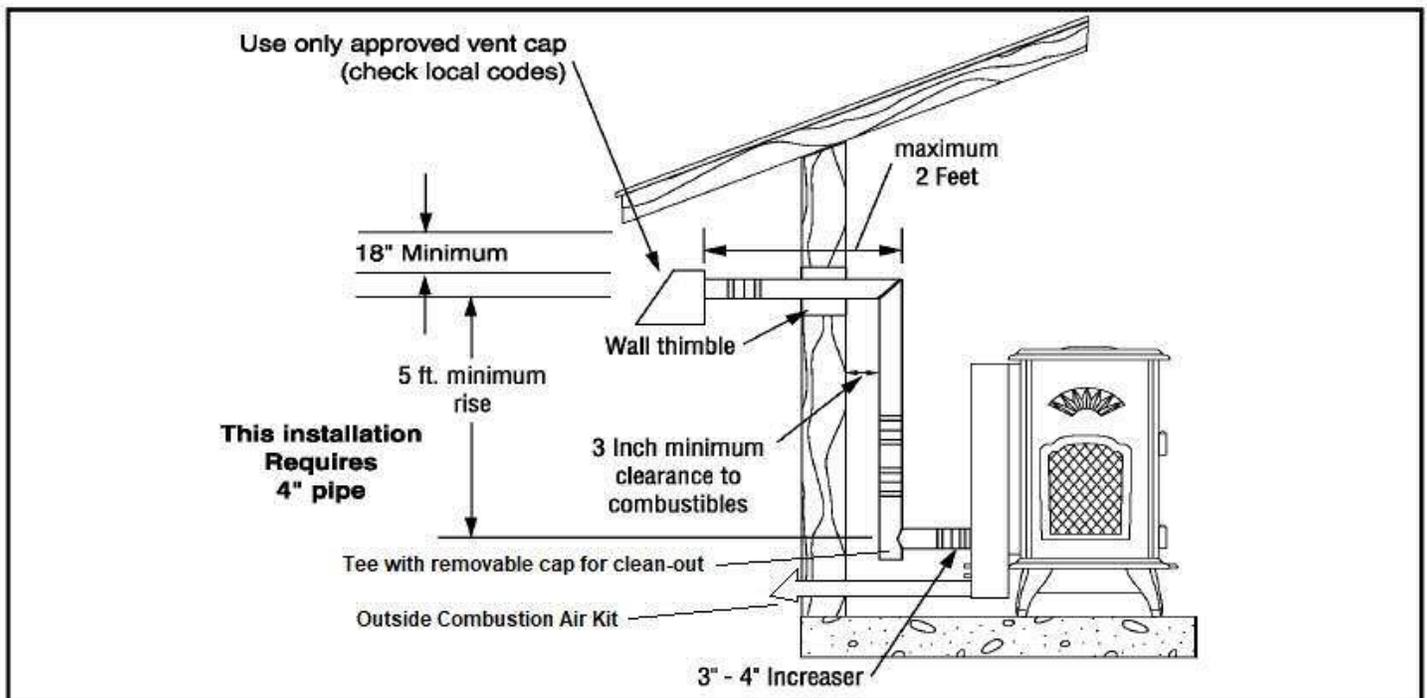

FIGURE 7
- c. Installation per Figure 7 requires 4" pellet pipe.